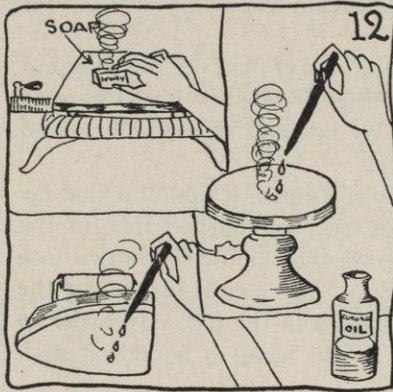

FIG. 12.
- b. Rub a little dry soap on the luring stove, hot plate, or upturned iron, or let a few drops of coconut oil fall on one of them (see Figure 12). Let it smoke until there is no grease left.